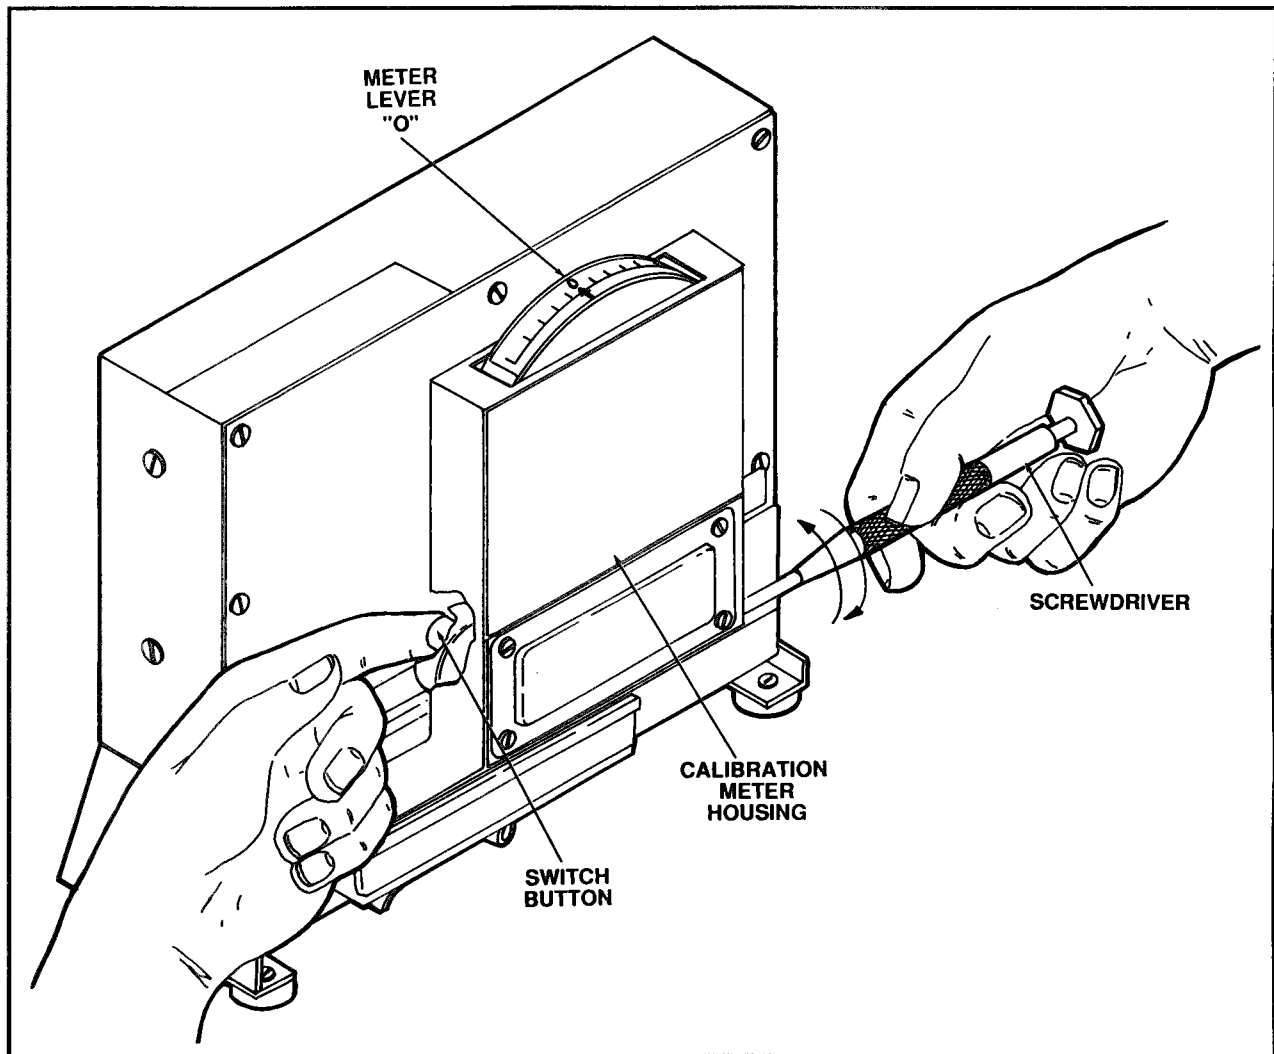

Figure 2.27 Zeroing-Out the Meter Lever
g. Insert the tip of the jeweler's screwdriver into the housing and turn the internal adjustment screw (in either a right or left direction). Depress the switch button on the instrument pack as you turn the screw until the meter lever reads "0". See Figure 2.27.